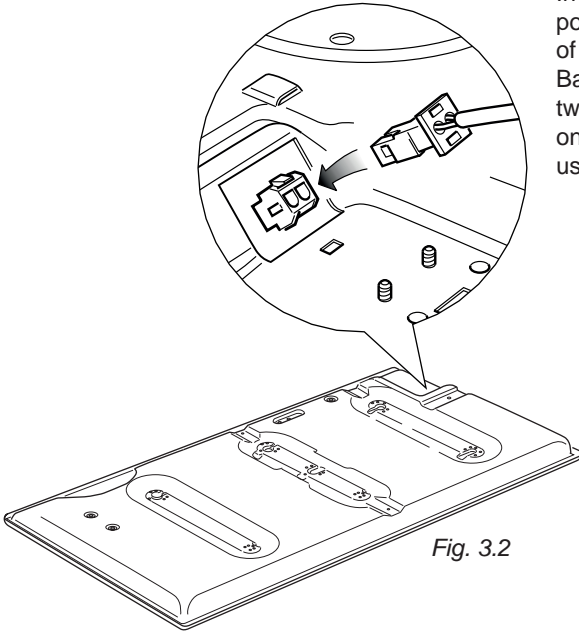

Fig. 3.2
- Connect the battery cable plug to the socket as indicated in figure 3.2.